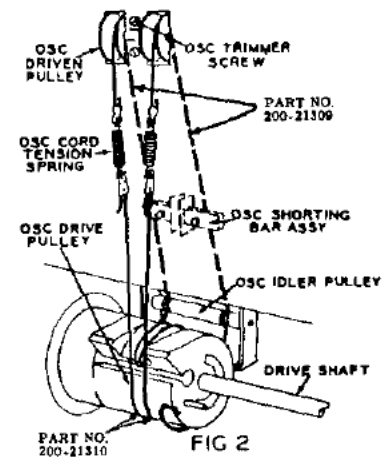

FIG 2
The oscillator drive assembly consists of four (4) separate drive cords each locked to the oscillator drive pulley (Fig. 2). Each RF drive assembly consists of two separate drive cords which are locked to the RF cavity drive pulley (Fig. 3). If the drive cord requires replacement, the picture tube should be removed along with the cavity cover. Follow the diagram and replace the cord as indicated.